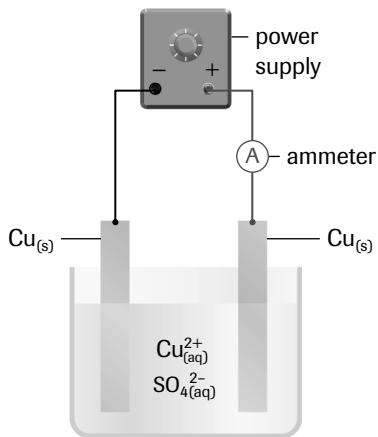

Figure 3
An electrolytic cell with copper electrodes and copper(II) sulfate solution is set up as shown in **Figure 3**. Measurements of the change in mass of the electrodes, current, and time are used to determine the Faraday constant. An important controlled variable is the electric current.
3. Fill a beaker close to the top with copper(II) sulfate solution.
5. Assemble the rest of the apparatus as shown in **Figure 3**. Note which copper strip is the cathode and which is the anode.